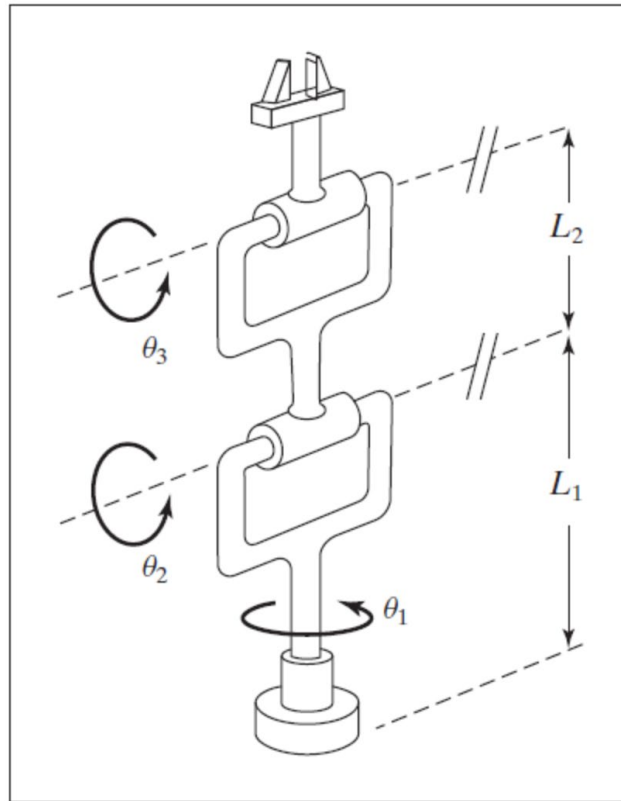

FIGURE 3.38: Three-link *RRR* manipulator (Exercise 3.18).
- 4.19** [15] Consider the *RRR* manipulator shown in Fig. 3.38. How many solutions do the (position) kinematic equations possess?